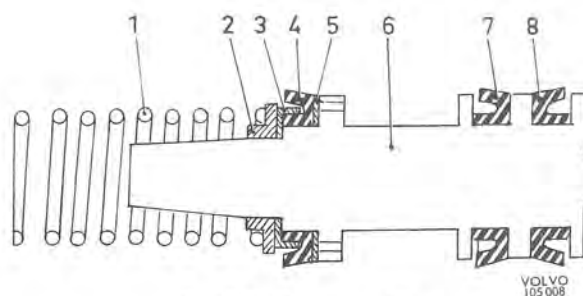

Fig. 5-49. Secondary piston
1. Fit the brass washer (5, Fig. 5-49) and the piston seal (4) on the secondary piston (6). Check to make sure that the seals are turned correctly, see Fig. 5-49.
- Place the sealing ring (6, Fig. 5-49) on the master cylinder. Fit the cylinder in position and then the